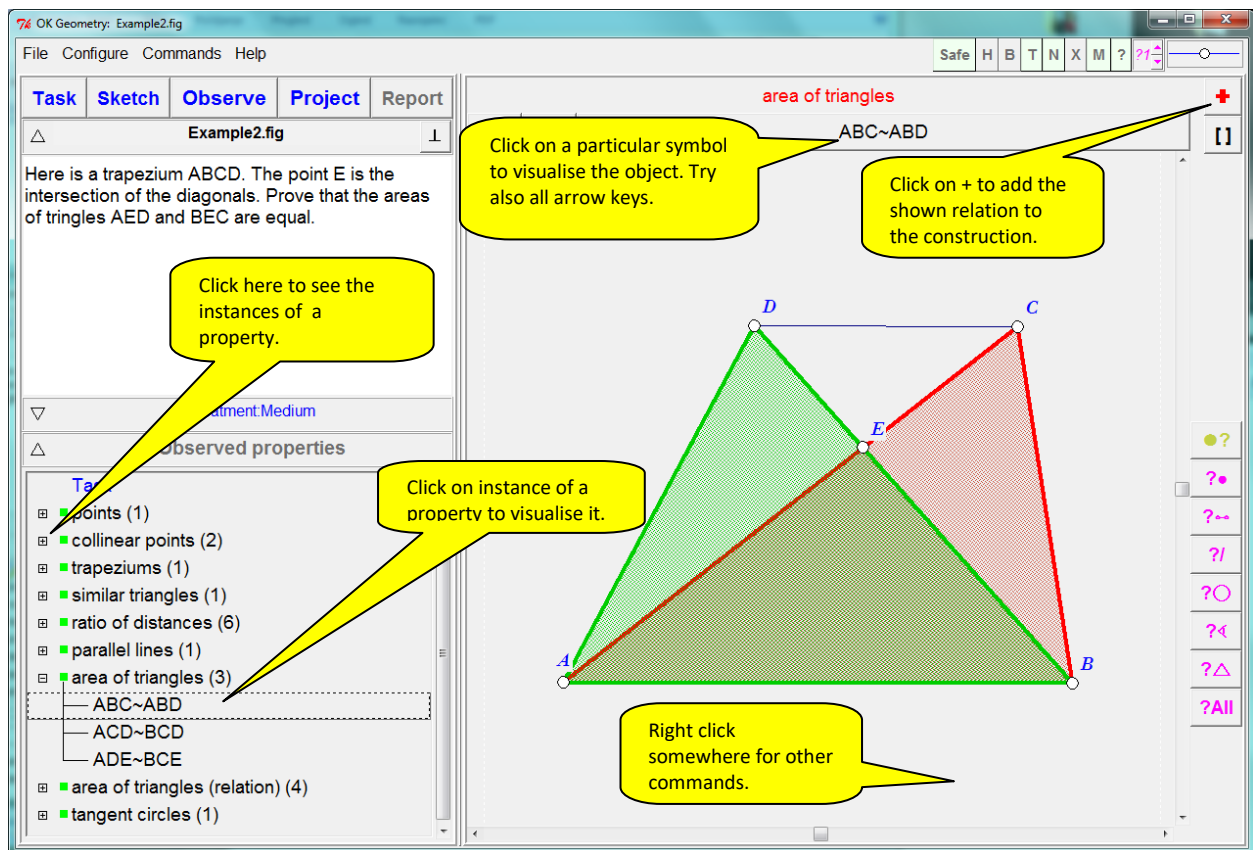

Figure 22
Apply the command **Observe** on the main menu bar to generate a list of observed properties of the considered construction. Among the listed properties, click on those you consider relevant to your problem, in our case - the areas of the triangles. Three instances of the property will appear. Click on an instance, e.g. $ABC \sim ABD$, to visualise the instance of the property. To visualise a specific object in the relation, e.g. the triangle ABC, click on the name of the object above the drawing pane. (See Figure 22.)
Step 3 (optional). Document the observations. Manage a project. Constructions and visualisations of observed properties (see Figure 22) can be collected as icons in a project. The iconised constructions and observations can be edited also later (using the **Project** command in the main menu bar) and documented as a report, see the **Report** command in the main menu bar. For more details see Sections 4.3.4 and 4.3.7.